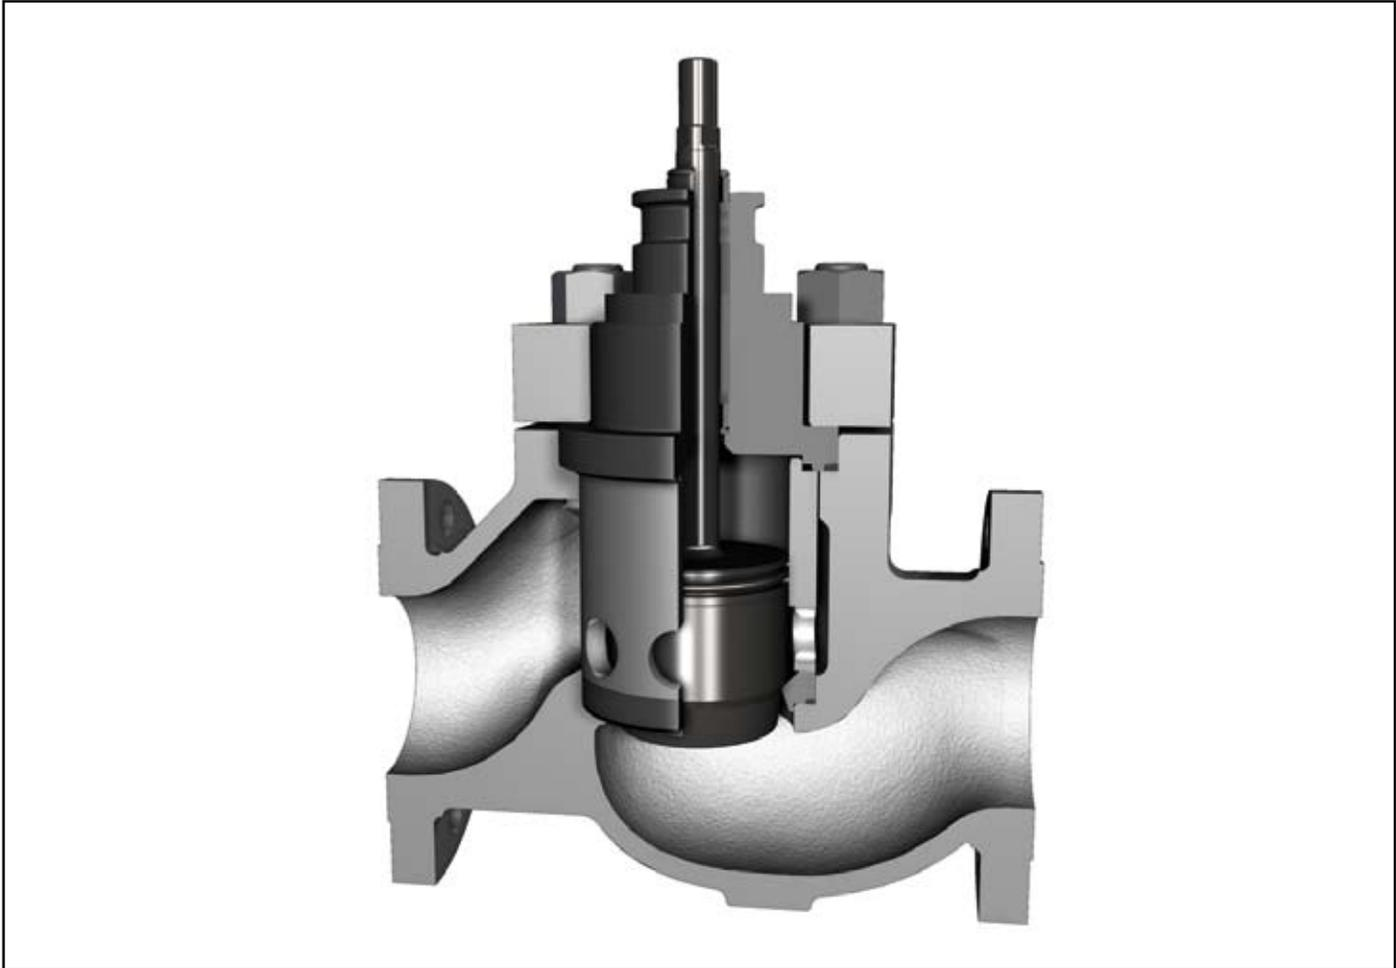

Figure 2: Pressure Balanced Mark One Control Valve Body Assembly
- Figure 2 – Pressure Balanced Mark One Control Valve Body Assembly